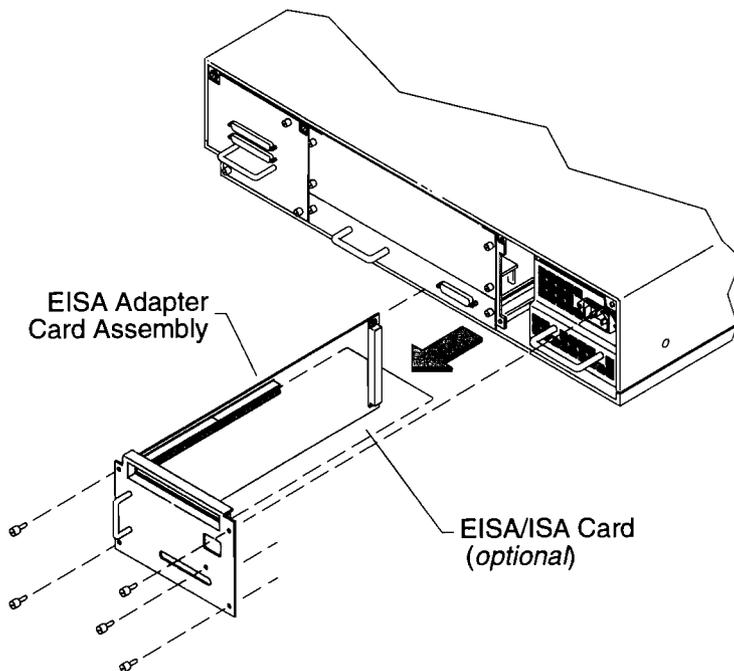

Figure B-6. Removing the Power Supply Cover Plate
4. Remove the power supply cover plate, as shown in Figure B-6.